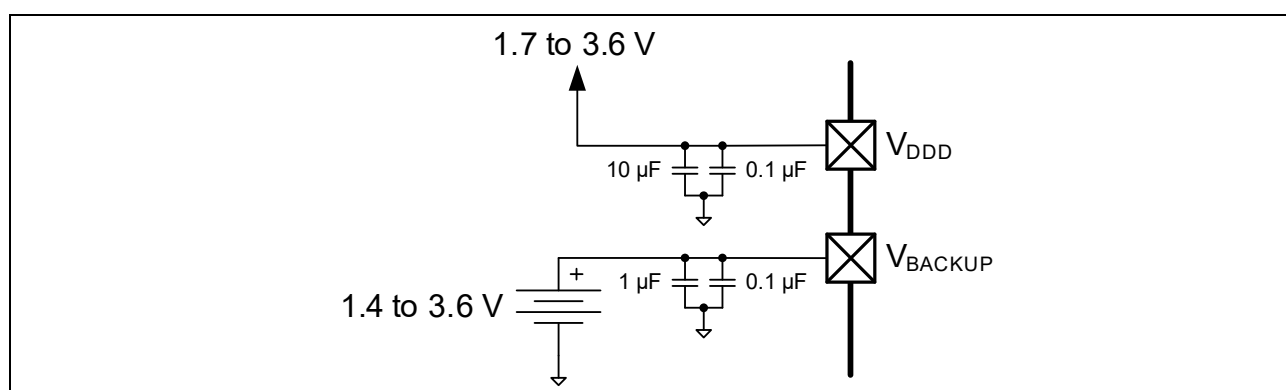

Figure 15 Separate Battery Connection to V_{BACKUP}
- V_{BACKUP} : the supply for the backup domain, which includes the 32-kHz WCO and the RTC. It can be a separate supply as low as 1.4 V, for battery or supercapacitor backup, as Figure 15 shows. Otherwise it is connected to V_{DD} . It powers I/O port 0.